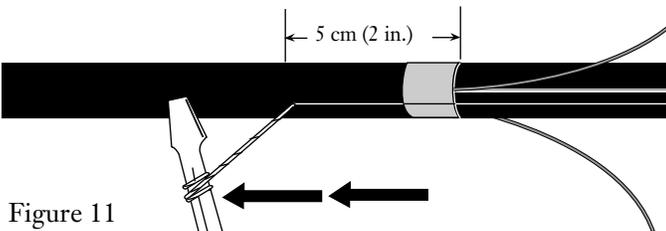

Figure 11
**4.14** Using the shaft of a screwdriver as a handle, pull the rip cord through the armor and outer sheath to 5 cm (2 in.) past the tape wrap on the outer sheath (Figure 11). The extra 5 cm (2 in.) of split sheath will permit the ground clamp to slide easily under the armor in a later step. *With armored SST-Drop cables, hold the shaft of the screwdriver against the outer jacket of the cable. Instead of pulling the rip cord through the armor, roll the shaft of the screwdriver down the side of the cable to start the cut.*